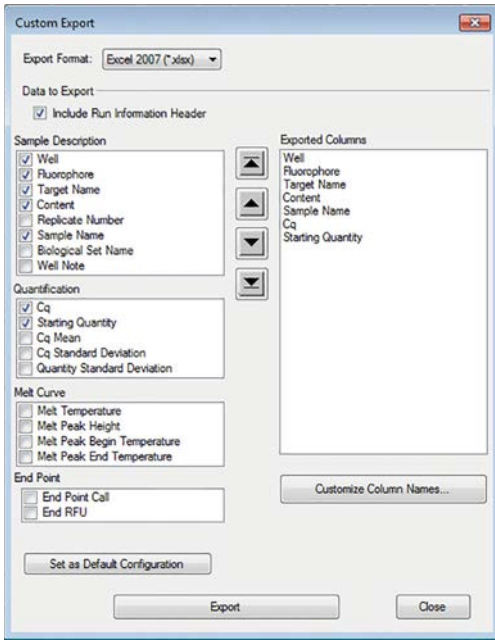

Figure 14. The Custom Export window.
2. Under the Export Menu, select “Custom Export...” and choose the following Export Properties (Figure 14):